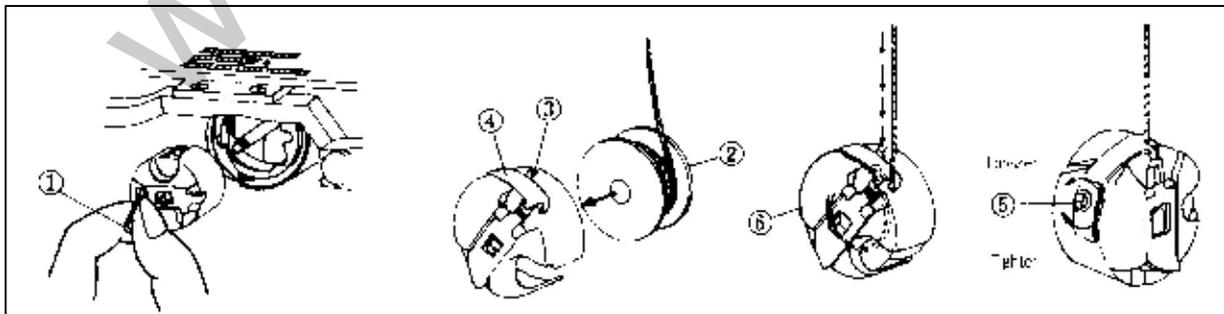

Fig.14
- A. After placing a bobbin (2) in a bobbin case (6), push the thread through the thread groove (3) and hook it under the tension adjusting plate spring (4). To tighten the lower thread, turn the tension adjusting screw (5) clockwise. Turn it counterclockwise to loosen. Adjust the tension of the lower thread so that it will fall slowly by gravity when the bobbin case (1) is dropped while holding the end of the thread.
- B. Hold the bobbin case handle (6) and insert it into hook. Pull the handle (6) to remove. (The bobbin will fall out if the handle is let go). (Fig.14)